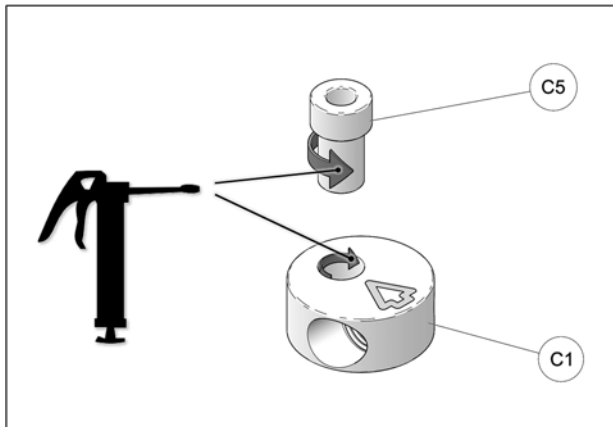

Fig. 18
11. At assembly, apply grease evenly all around step spacer bushing (C5) and in hole of aluminium disk (C1). See Fig. 18